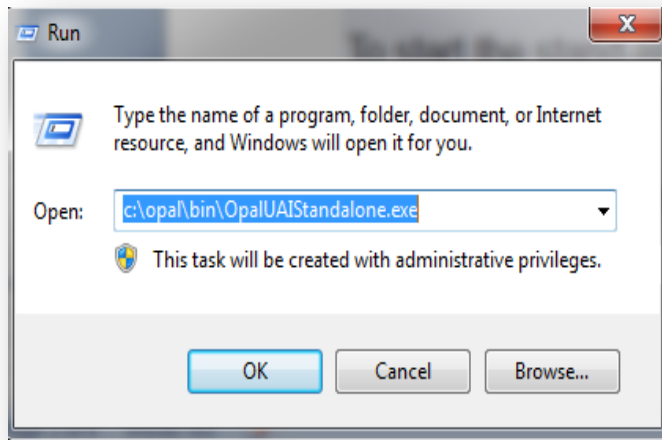

Figure 1
1. Run Command enter `c:\opal\bin\OpalUAIStandalone.exe` – Figure 1